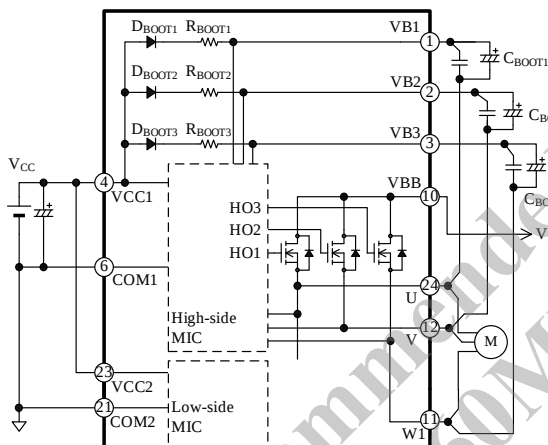

Figure 11-2. Bootstrap Circuit
As Figure 11-2 shows, a bootstrap diode, D_{BOOTx} , and a current-limiting resistor, R_{BOOTx} , are internally placed in series between the VCC1 and VBx pins. Time constant for the charging time of C_{BOOTx} , τ , can be computed by Equation (3):